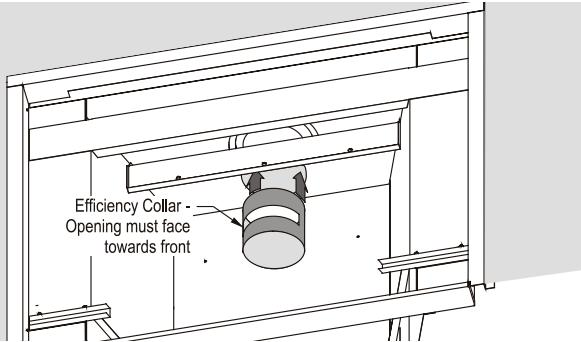

Figure 18. Installing the efficiency collar.
8. Install the efficiency collar as shown in figure 18. Use a long screwdriver to hold the collar out of the way while you install the